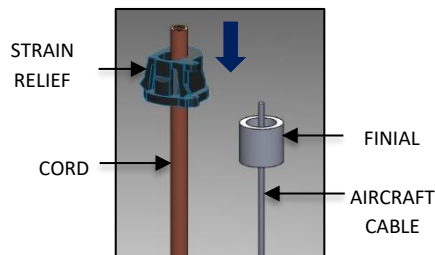

FIG. 23 - STRAIN RELIEF
- Pass the FINIAL and the STRAIN RELIEF through the AIRCRAFT CABLE and CORD, respectively. Adjust the STRAIN RELIEF as needed to get the desired CORD length as shown in FIG. 23 below.